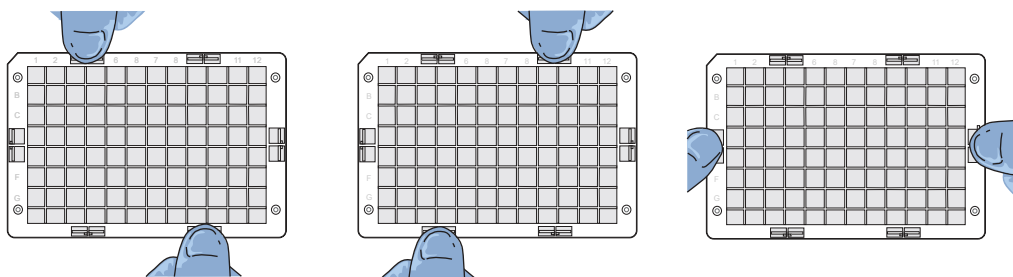

Figure 11 Clamping verification steps.
5. Verify the plate clamping step to ensure that the array plate is securely fastened to the hybridization tray. Using your thumbs, press the array plate downward following the positions that are specified in Figure 11. *No clicking sound indicates proper clamping.*